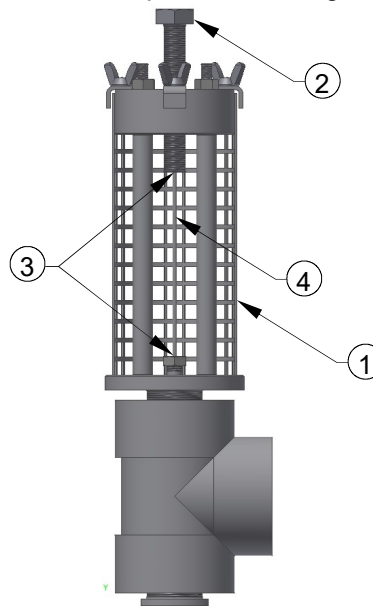

Figure 2: EORV with Shipping Pin
1. Remove Protective Screen Cover (See Figure 2, Item 1).